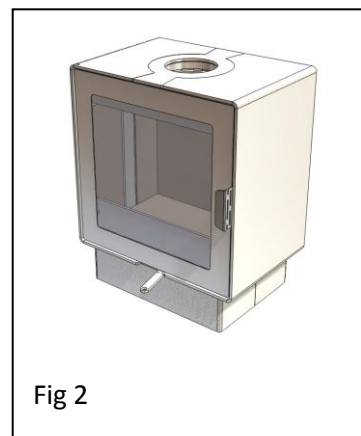

Fig 2
**Step 1** Open the air control fully using the tool (**fig 2**)